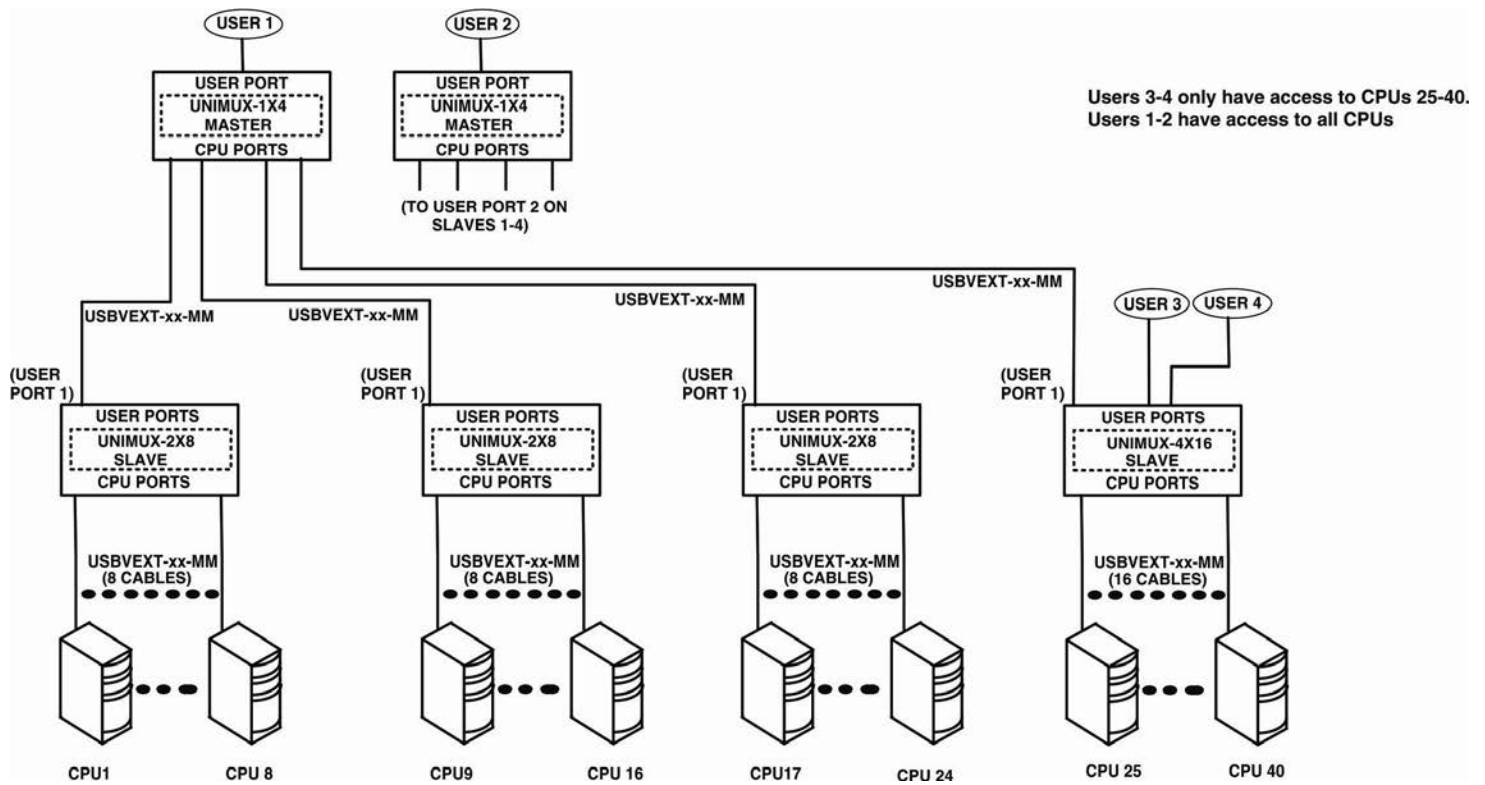

Figure 34- Cascaded configuration with single-user masters
**Exception: If the master is a single user UNIMUX switch, slaves connected downstream can be any size multi-user UNIMUX switch (see Figure 34).**
Repeat this procedure for each USER and MONITOR port on the slave that is desired to be controlled through the master. Any USER and MONITOR ports that do not get connected to the master can be connected to by users. Users connected to a slave downstream from the master will control only the CPUs directly connected to that slave switch (i.e. users 3 and 4 in Figure 34 can only control CPUs 25-40).